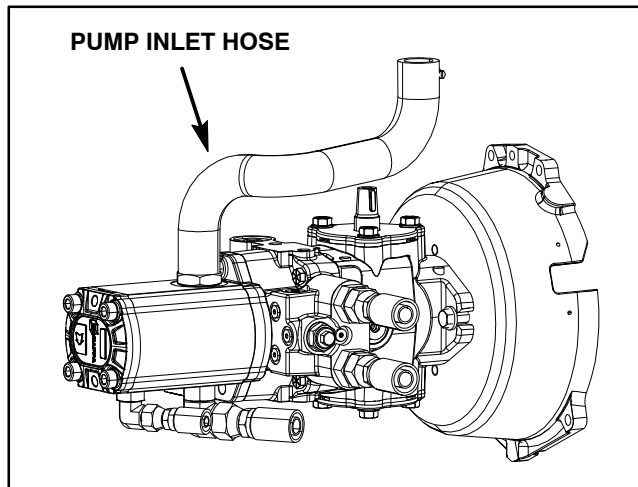
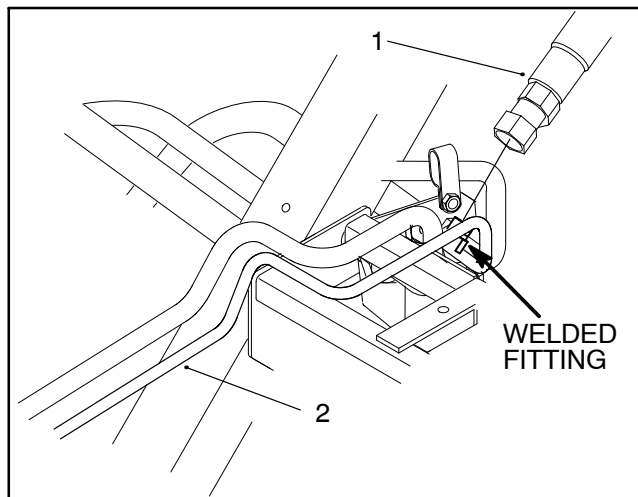
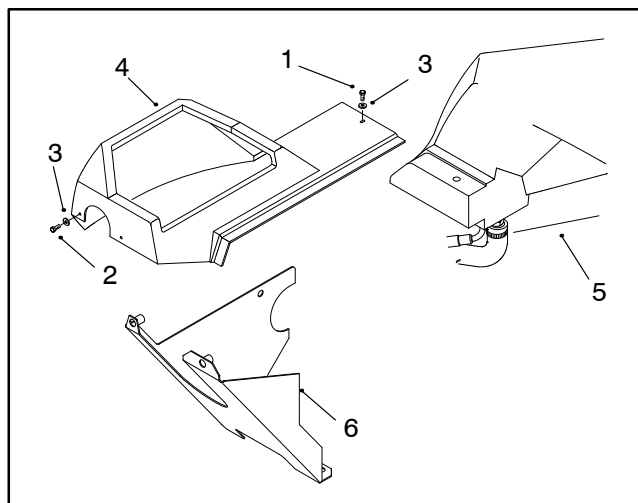

Figure 71
Figure 72
Figure 73
2. Place a suitable container under the gear pump to collect hydraulic oil. Clamp pump inlet hose to prevent drainage (Fig. 71). Remove pump inlet hose from gear pump and direct to container. Release clamp from hose to drain hydraulic tank.
3. Disconnect hose assembly from the hydraulic fitting welded to the reel motor case drain tube located below the right side of the frame. Allow hose to drain to a suitable container (Fig. 72).
4. Disconnect return hose (item 21) from barb fitting (item 9). Allow hose to drain into a suitable container.
5. Remove cap screw and flat washer securing the console shroud to the hydraulic tank. Remove both cap screws and flat washers securing the console shroud to the lower panel (Fig. 73).
6. Remove three (3) washer head screws that secure the mounting plate (item 29) to the frame. Two screws are located on the top of the plate at the front corners of the hydraulic tank. The third screw is in front of the castor fork and below the plate.
7. Tilt mounting plate assembly up by lifting at the rear of the machine. Prop up plate securely. Remove four (4) cap screws (item 16), flat washers (item 12) and grommets (item 13) securing the hydraulic tank to the mounting plate.
1. Place antiseize lubricant into all four (4) inserts at the bottom of the hydraulic tank. Position tank onto the mounting plate.
2. Secure hydraulic tank to the mounting plate with four (4) cap screws (item 16), flat washers (item 12) and grommets (item 13). Torque cap screws from **30 to 60 in-lb (3.4 to 6.8 N-m)**.
3. Secure mounting plate to the frame with three (3) washer head screws. Two screws go on the top of the plate at the front corners of the fuel tank. The third screw goes in front of the castor fork and below the plate.
4. Secure console shroud to the hydraulic tank with cap screw and flat washer and to the lower panel with both cap screws and flat washers (Fig. 73).
5. Secure return hose (item 21) to hydraulic barb fitting (item 9) with hose clamp.
6. Secure pump inlet hose to gear pump with hose clamp (Fig. 71).
7. Connect hose assembly to the hydraulic fitting welded to the reel motor case drain tube located below the right side of the frame (Fig. 72).